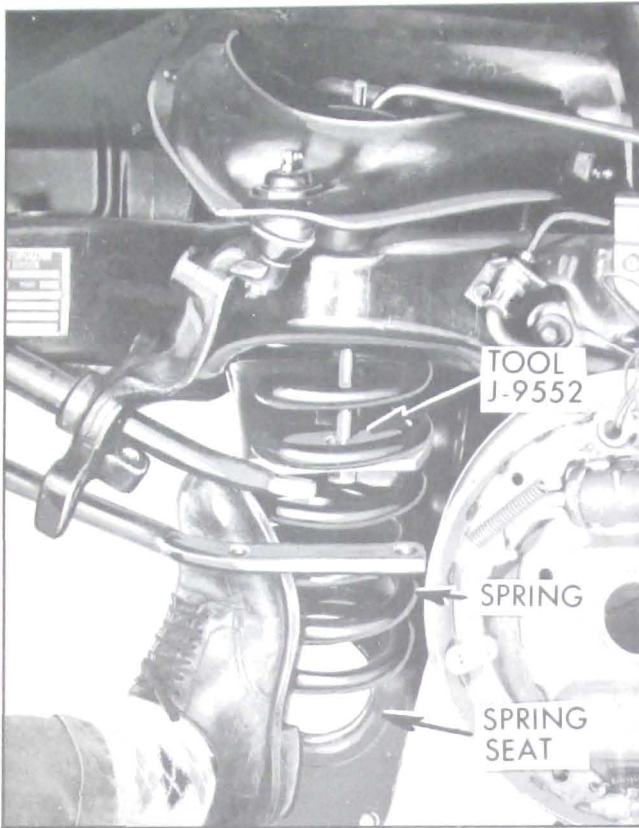

Figure 7-19—Pushing Spring on Lower Control Arm Seat
6. Force the spring on its seat in the lower control arm as shown in Figure 7-19. Remove tool.